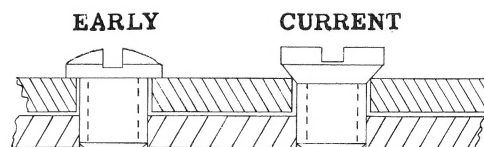

Figure 12. BRACKET SCREWS
c. Rangefinder actuating bracket must be mounted tight on the rear yoke section. Early models will require replacement of clamp screws with a special flat head screw (P/N 34932), figure 12.
e. Tube Clamp. A second tube clamp has been added to hold the horizontal position of the tube more rigid. Figure 12 illustrates the location of the tube and its clamps.